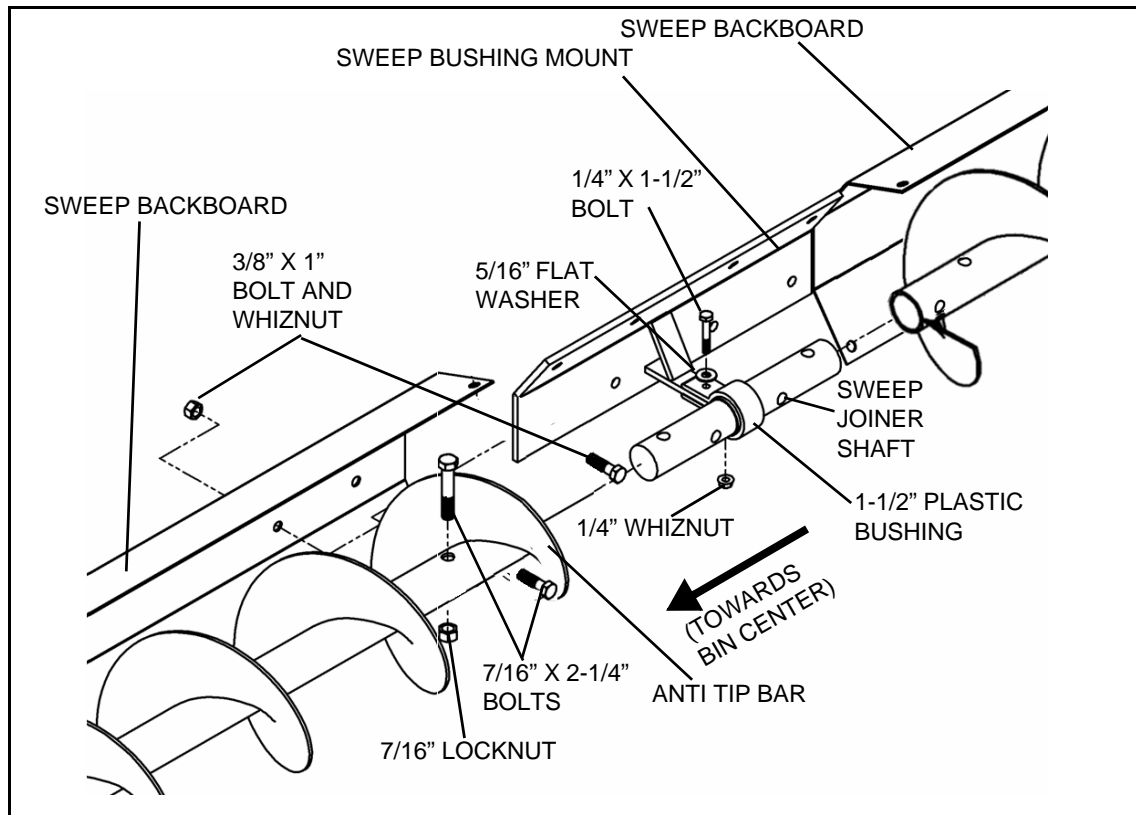

Figure 4.23
4. Install 1-1/2" plastic bushing loosely onto sweep bushing mount (**Figure 4.23**).